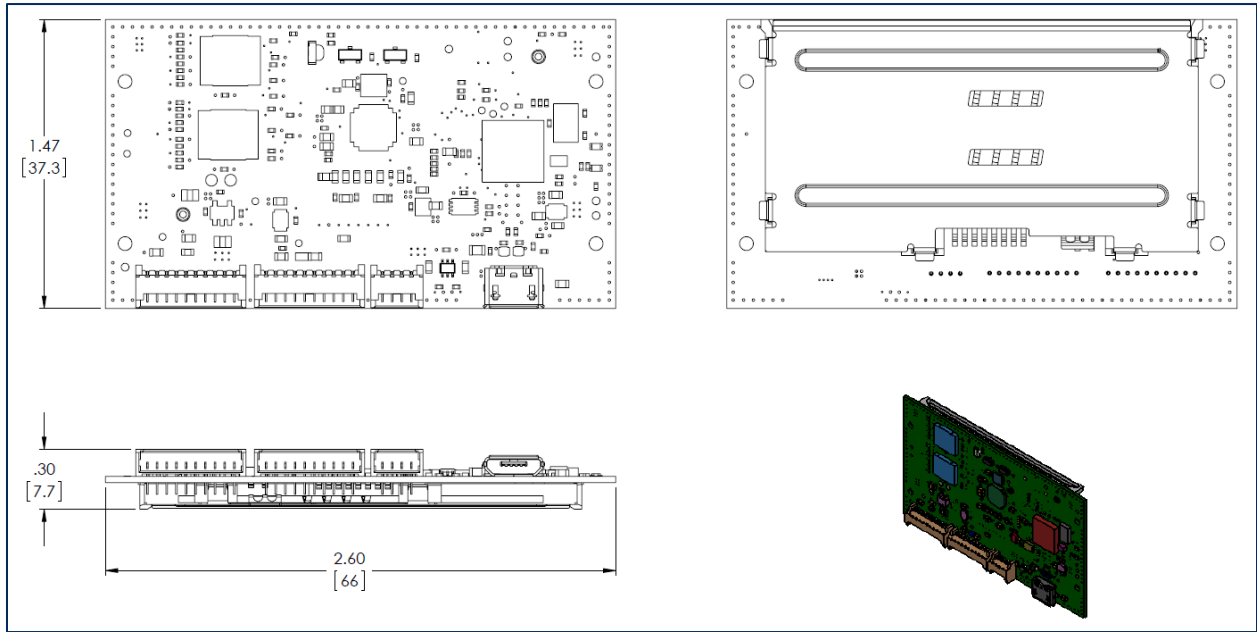
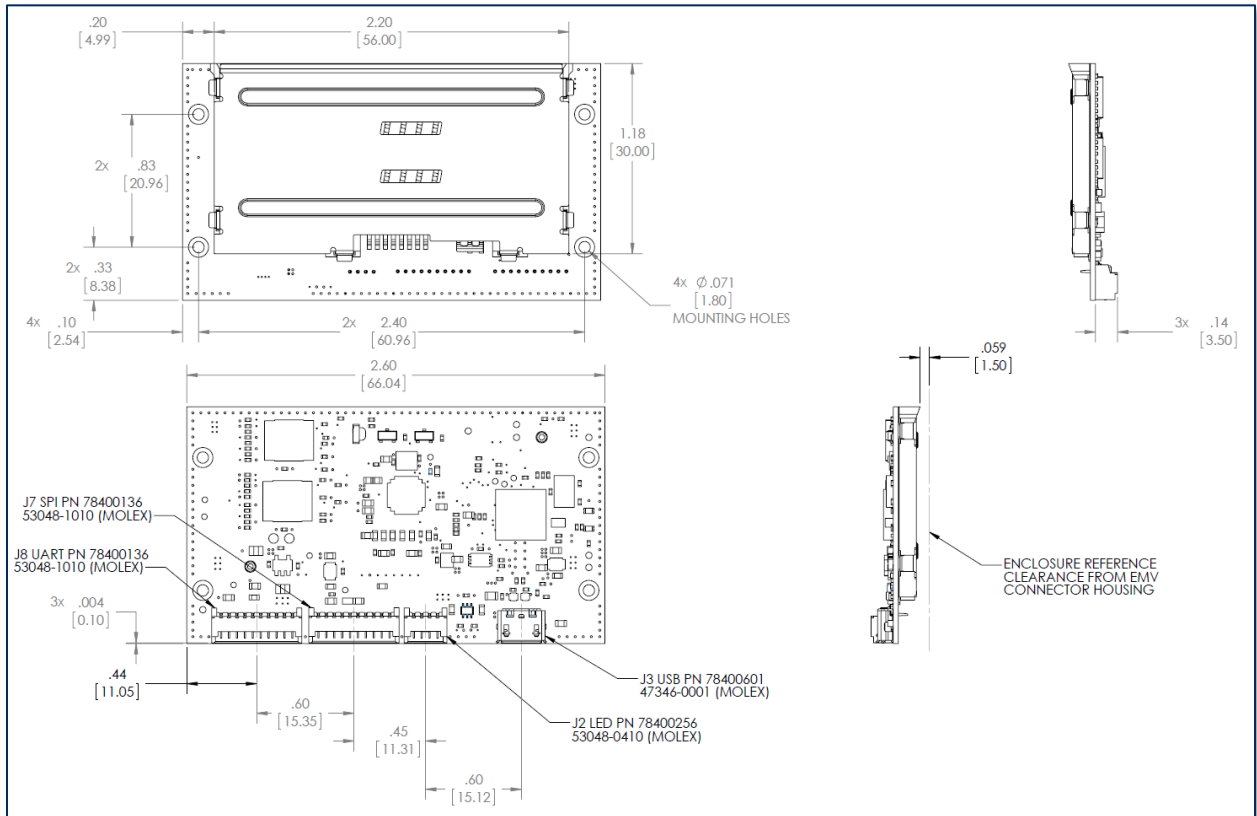
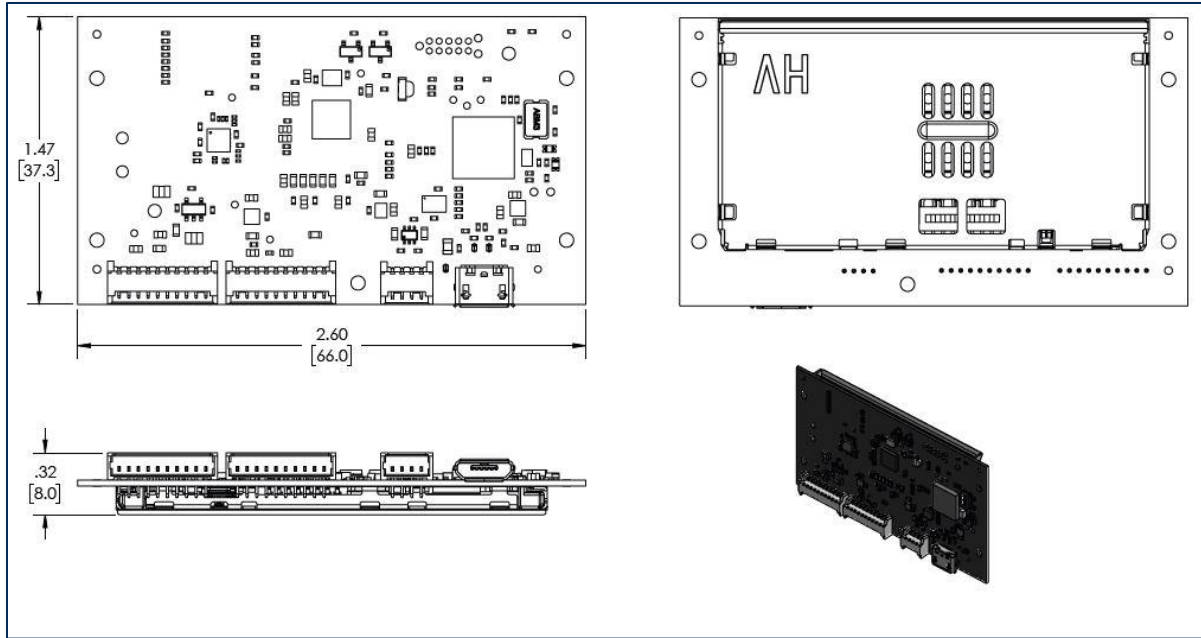

Figure 3-1 – mDynamo Gen I Overall Mechanical Dimensions in Inches [mm]
Figure 3-2 – mDynamo Gen I Detail Mechanical Dimensions in Inches [mm]
Figure 3-3 – mDynamo Gen II Overall Mechanical Dimensions in Inches [mm]
- **Overall dimensions** of the device are shown in **Figure 3-1** and **Figure 3-3**. The printed circuit board is 1/32” thick. **Detailed dimensions** are shown in **Figure 3-2** and **Figure 3-4**.
- The mounting hole placements are provided in **Figure 3-2** and **Figure 3-4**. MagTek suggests stainless steel screws starting with sizes **0-80** or **M1.6**, mated with threaded inserts in the enclosure. Make sure mounting hardware in contact with the mounting holes conforms to grounding requirements in section **2 Electrical Integration**.
- Be sure to provide at least 1/16 inch (1.5 mm) clearance from the large stainless steel plate of the chip card reader housing to any portion of the enclosure to allow for soldering variations in different boards (see reference clearance in **Figure 3-2** and **Figure 3-4**).